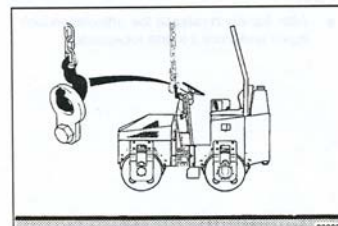

Fig. 50
- Always lift the machine by the central lifting facility (Fig. 50).